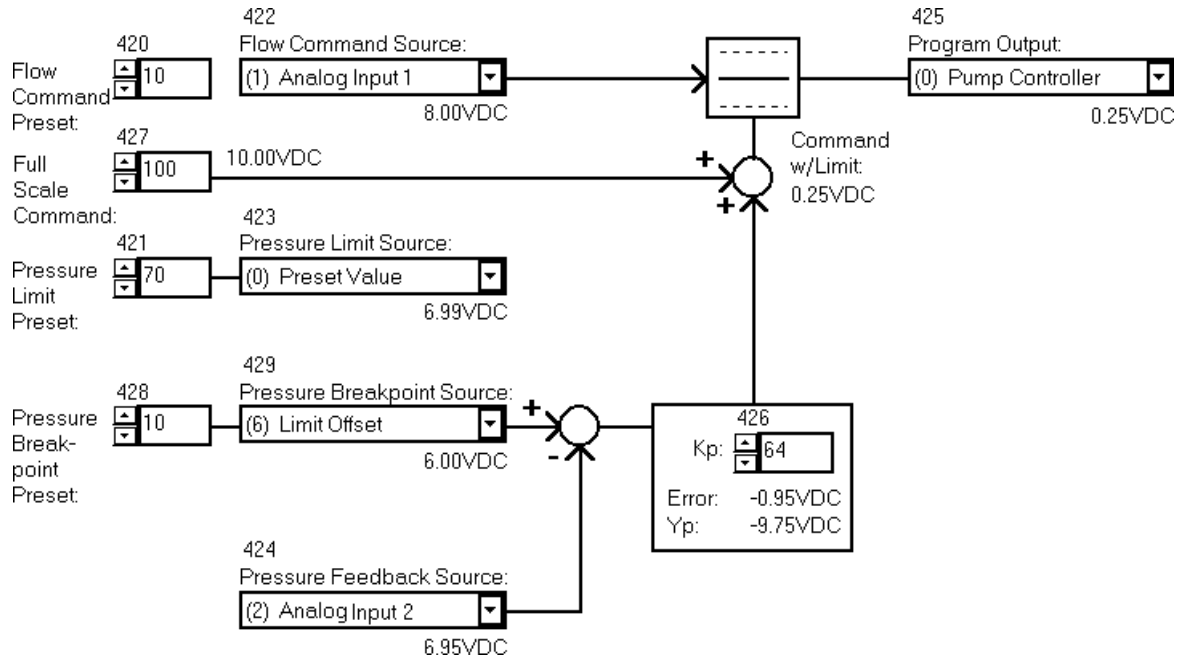

Figure 5: Flow with Pressure Limit Program
Example: Figure 5 shows Program 3 Form for Flow with Pressure Limit. The Flow Command Source is Analog Input 1 (program item 422=1). The Flow Command Preset is set to 10% (program item 420=10) although the Flow Command Preset is not used in this example.